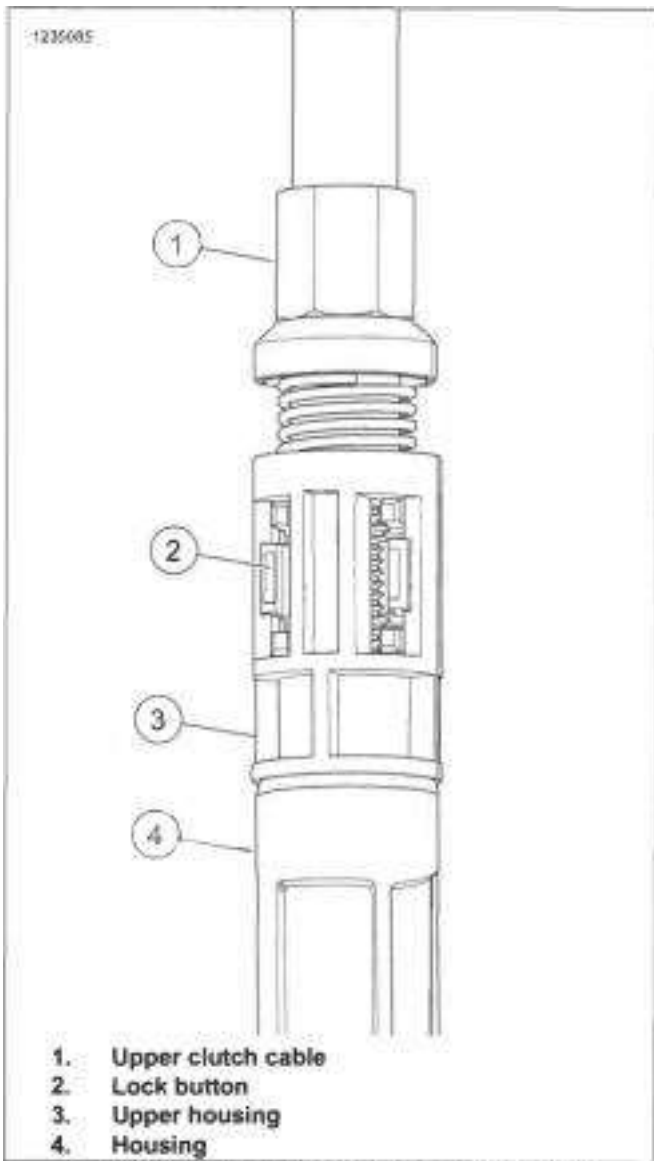

Figure 3-103. Upper Clutch Cable Compressed
- a. Remove spring clips (1).
- b. Slide cover (2) up.
***Upper clutch cable (1) spring must be uncompressed.***
See Figure 3-103. Unlock upper clutch cable (1).
- a. Push lock button tabs (2) slightly inboard and then down to disengage.
2. See Figure 3-103. Remove housing (4) from upper housing (3).
See Figure 3-103. Install lock button (2).
2. See Figure 3-103. Install housing (4) to upper housing (3).